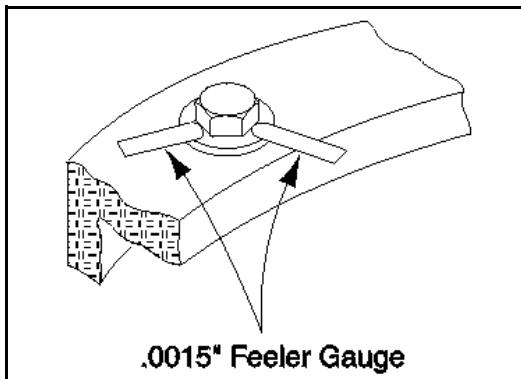

Figure 3-31. Swing Bearing Feeler Gauge Check
9. On the frame, at the front of the turntable, try to insert the 0.0015" feeler gauge between the bolt head and hardened washer at the indicated position. (Figure 3-31.)